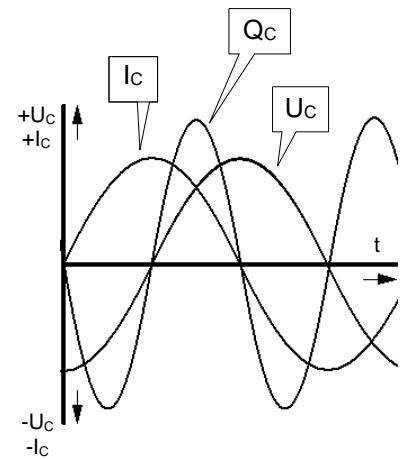

Fig. 10.1.2: Reactive power
The **reactive power Q** at a capacitor is given by the reactive current and the capacitor voltage. It can be represented as a multiplication of the instantaneous values of i_c and u_c in a line chart, with the phase relationships (Fig. 10.1.2).
- What is the value of C_{tot} in a faulty circuit as in Fig. 10.1.2.3?